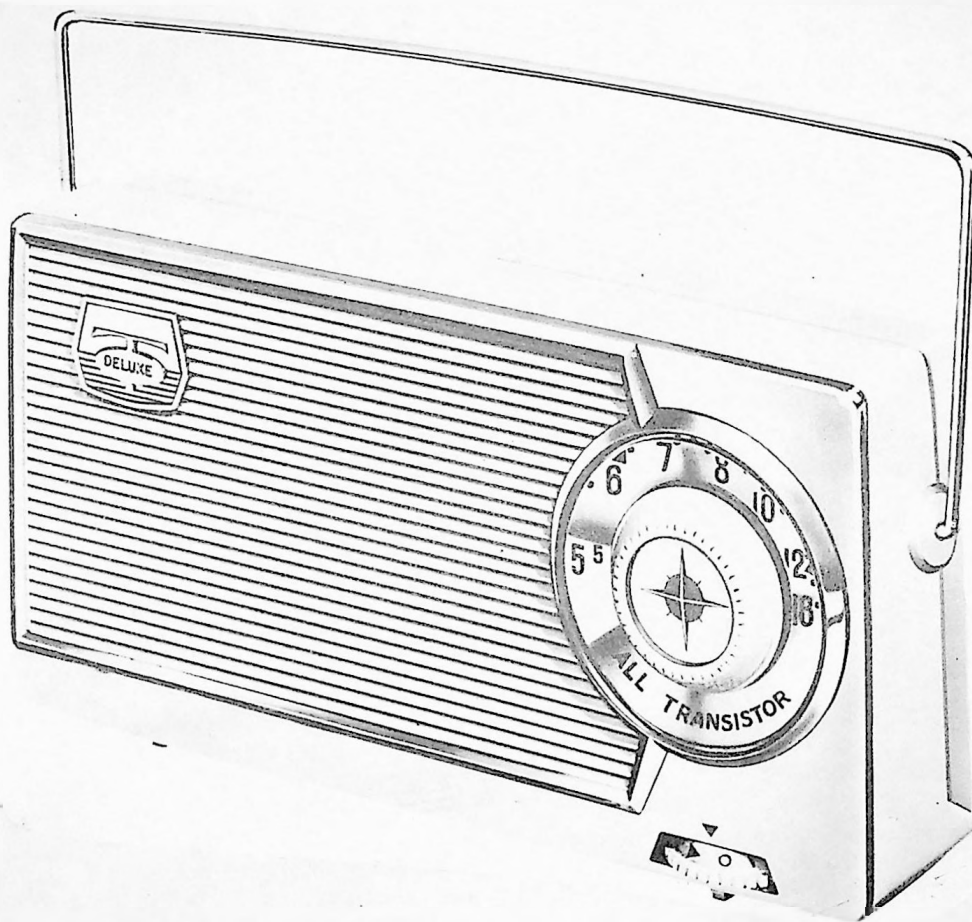

Figure 7. Typical transistor portable radio.
a. Portable A. M. Receivers. A typical transistor portable receiver is shown in figure 7. It is very light, weighing about 1-1/2 pounds, and measures only 3-1/2 by 7-1/2